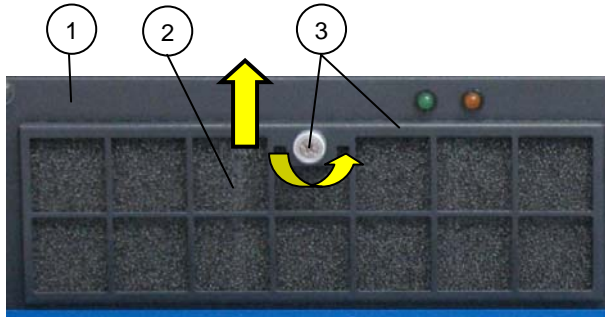

Fig. 22: Position of the filter pad
The filter pad (Fig. 22, pos. 2) is inserted in the filter pad holder (Fig. 22, pos. 3) at the front side of the system. Cleaning frequency of the filter pad will depend on the operating environment. If the environment is extremely dusty, clean the filter mat more often. The filter mat can be changed even if the system is powered-up.
2. Loosen the knurled screw (Fig. 22, pos. 3) that attaches the filter pad holder to the chassis.
3. Pull the filter pad holder in the direction of the arrow (see Fig. 22) and lift it off.